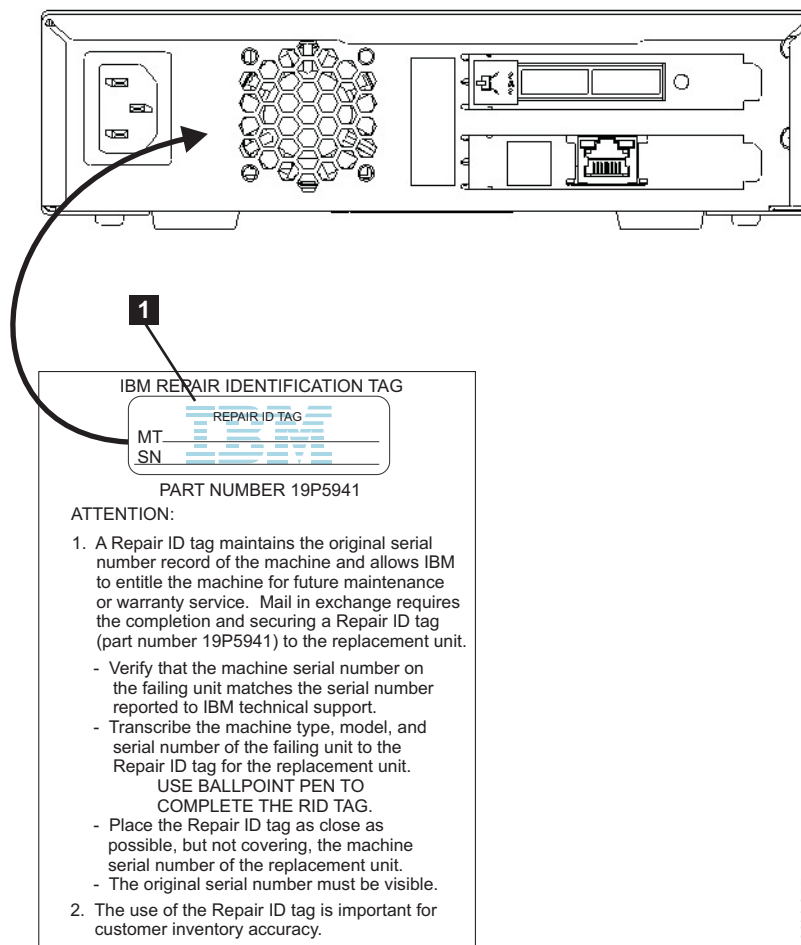

Figure 27. RID tag on rear panel
2. Locate the repair identification (RID) tag (included with the replacement unit). See **1** in Figure 27)